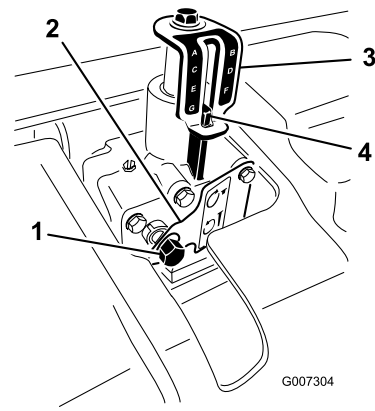

Figure 21
3. Insert a 9/16" socket w/ratchet onto the depth adjuster input shaft (Figure 21).
5. Rotate the depth adjuster clockwise (CW) to reduce the aeration depth or rotate counter clockwise (CCW) to increase the aeration depth. (Figure 21).
6. Rotate the depth adjuster input shaft until the desired depth is attained as shown on the depth indicator decal (Figure 21).